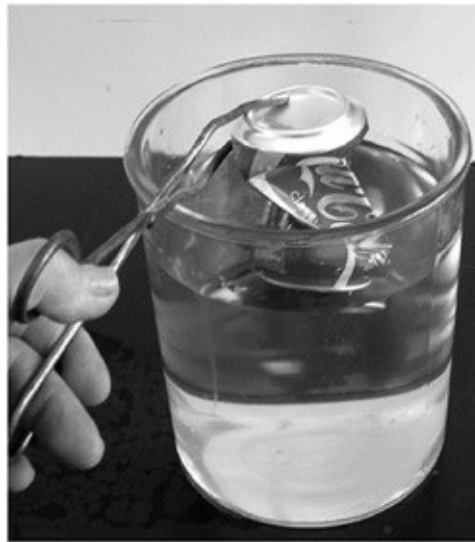

Figure 35-2 *Lower air pressure in the can causes it to be crushed.*
5. Quickly immerse the soda can, with steam still evolving, top side down in the water. Observe what happens (Figure 35-2).